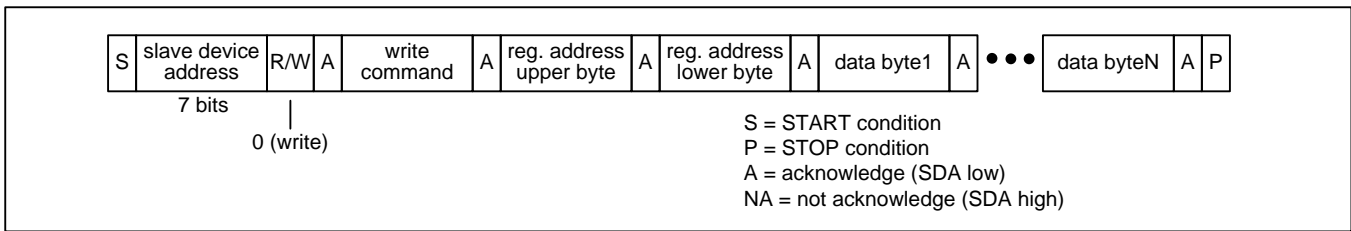

Figure 9 - I2C Register Write Transaction Functional Timing
**Register Write Transactions.** The device registers are accessible when the **EESEL** bit is 0. The bus master does an I2C write to the device. The first three bytes of this transaction are the SPI Write command (see Table 3), the upper byte of the register address, and the lower byte of the register address. Subsequent bytes are data bytes to be written. After each data byte is received, the device writes the byte to the write address and then increments the write address. The bus master terminates the write with a STOP condition (P). See Figure 9.